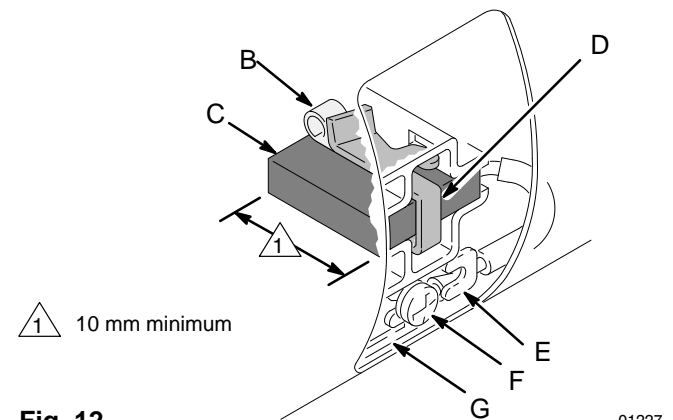
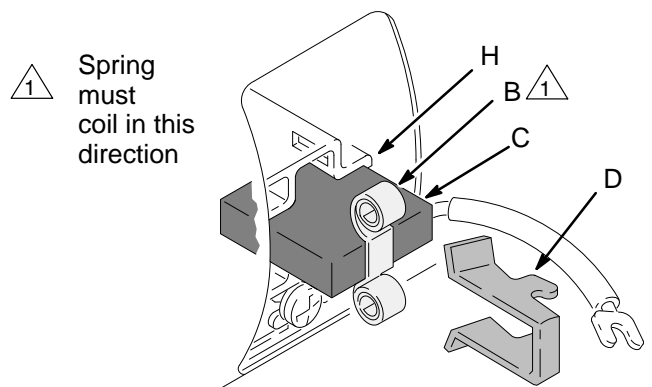

Fig. 12
Fig. 13
NOTE: Replace the brushes when they have worn to less than 10 mm. See Fig. 12. Always replace both brushes at the same time. A Brush Repair Kit, 220–853, and spring clip, 110–816, are available.
3. Loosen the terminal screw (F). Pull the brush lead (E) away, leaving the motor lead (G) in place. Remove the brush (C) and spring (B). See Fig. 12.
5. Install the new brush (C) so its lead is in the long slot (H) of the holder. See Fig. 13. Slide the terminal (E) under the terminal screw washer. Make sure the motor lead (G) is still connected to the screw. Tighten the screw (F). See Fig. 12.
6. Place the spring (B) on the brush as shown in Fig. 13. The spring must coil as shown.
7. Push in and hook the spring clip (D). See Fig. 13.
9. Test the brushes. Remove the connecting rod pin (50). See 15, page 14. With the sprayer off, turn the pressure control knob fully counterclockwise to minimum pressure. Plug in the sprayer. Turn the sprayer on. Slowly increase the pressure until the motor is at full speed. Inspect the brush and commutator contact area for excessive arcing. Arcs should not “trail” or circle around the commutator surface.